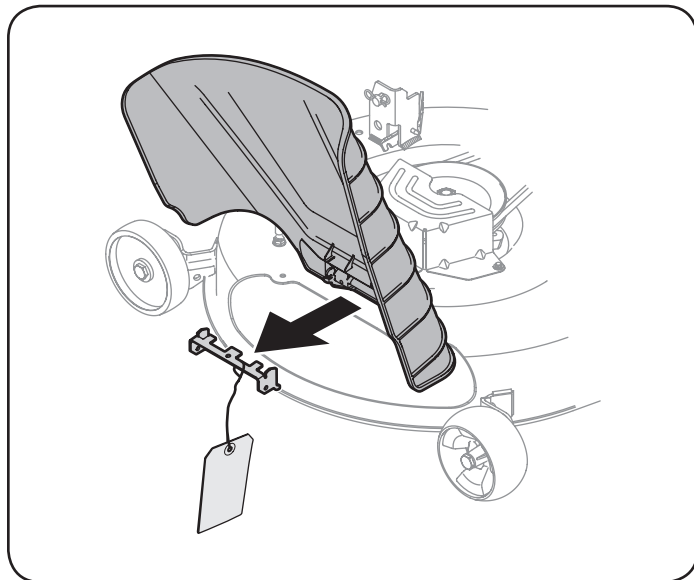

Figure 5
1. Check the mower deck for a shipping brace that may be holding the chute deflector upward for shipment. If the brace is present, it must be removed before operating the tractor. Holding the chute deflector fully upward, remove the shipping brace. Lower the chute deflector. See Figure 5.